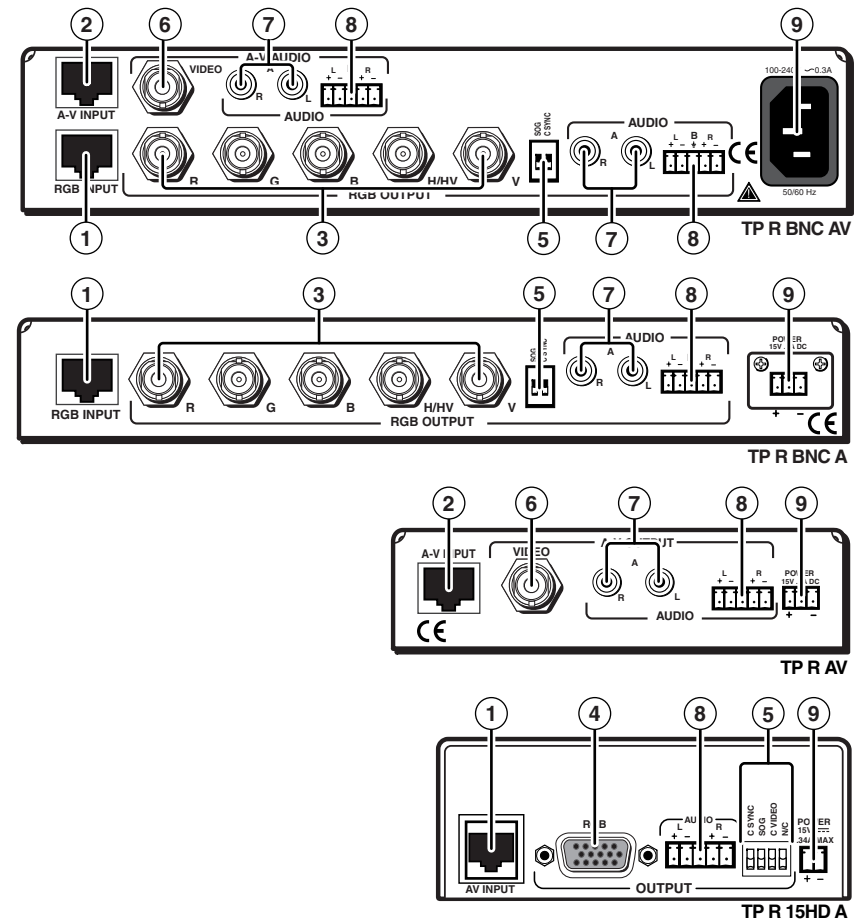

Figure 2-7 — Installation features, TP receivers
- ① **RGB video transmission connector** — Attach one end of a TP cable to this RJ-45 female connector (figure 2-7). Attach the other end to an Extron TP 15HD or BNC transmitter. See *Termination of TP cable* on page 2-15 for pin assignments.
- ② **Composite video transmission connector** — Attach one end of a TP cable to this RJ-45 female connector. Attach the other end to an Extron TP composite video transmitter. See *Termination of TP cable* on page 2-15 for pin assignments.